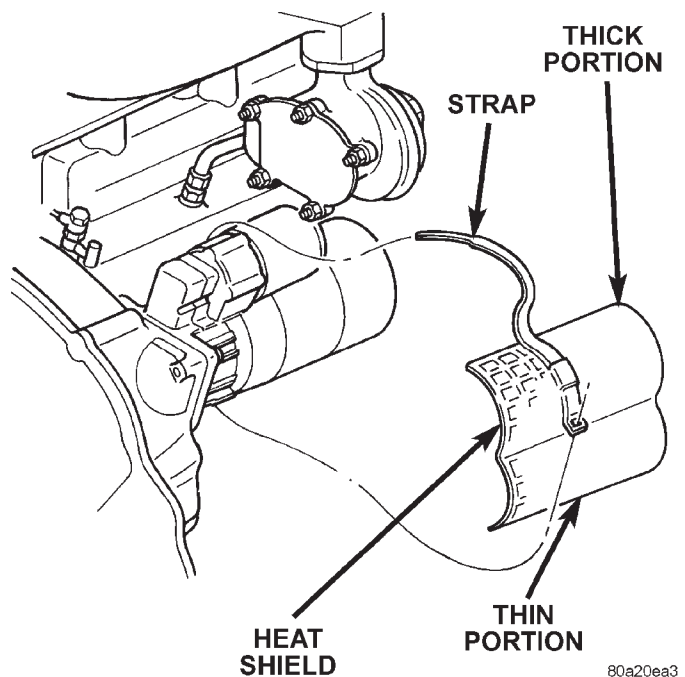

Fig. 12 Starter Heat Shield Remove/Install
(5) Remove the strap that secures the starter heat shield and remove the heat shield from the starter (Fig. 12).